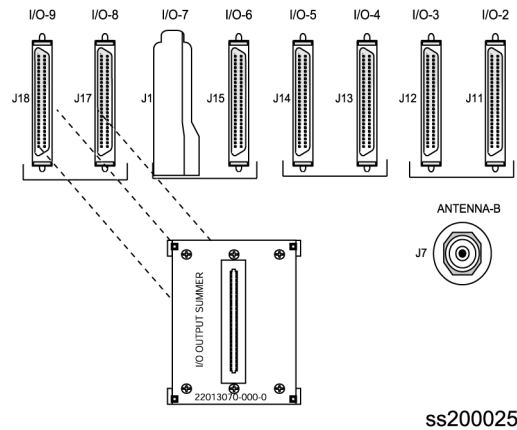

Figure 2-5. Installing the Output Summer Adapter
To create an A/B pair of Output modules in a redundancy configuration, you need to install Output Summer adapters (part number 22013070-000-0) on the corresponding outputs as shown in Figure 2-5. All Module A outputs are summed with the corresponding outputs of Module B, providing 1:1 output protection (1:1 redundancy). Output pairs in slots A4/A5, A6/A7, A8/A9, and A10/A11 are available for configuration in redundant mode using Output Summer connectors. The pinout of the Output Summer adapter is the same as the I/O interface connectors (see Table D-7).
2. Install Output Summer adapters on all I/O connector pairs that require redundancy, see Figure 2-5.